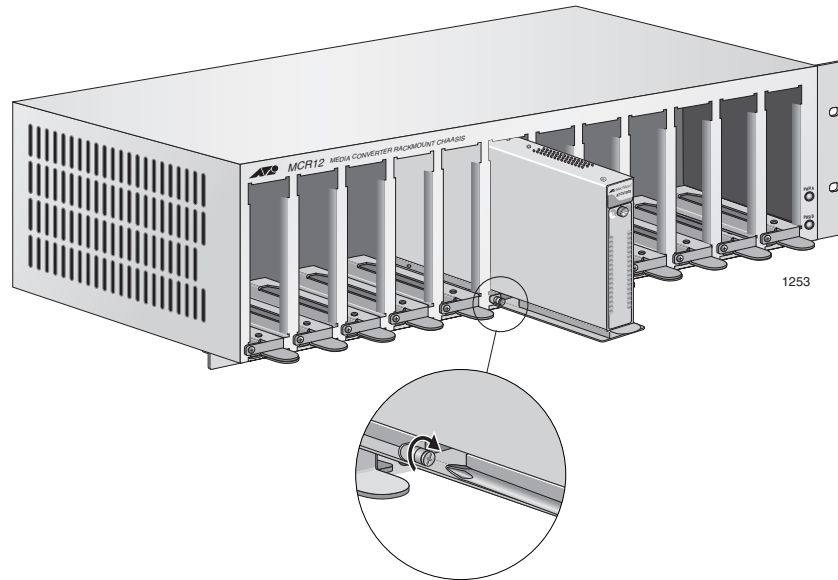

Figure 16. Tightening the Captive Screw on the AT-CVMCR Adapter
7. Tighten the captive screw on the AT-CVMCR adapter to secure the AT-CV1000 in the chassis, as shown in Figure 16.